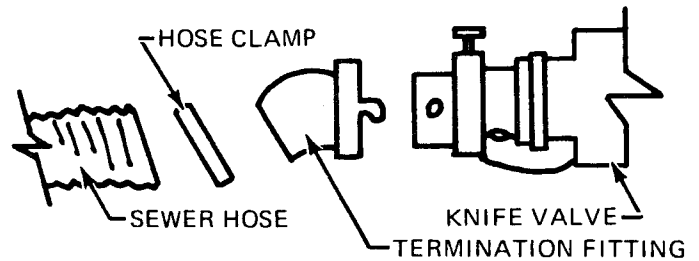

FIGURE 7 – TERMINATION FITTING INSTALLATION
2. Place sewer line over the termination fitting and secure by tightening the "C" type clamp (see Figure 7).